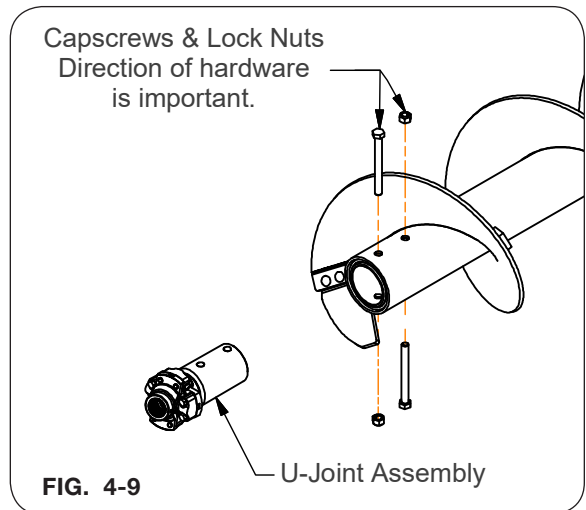

FIG. 4-9
6. Attach the u-joint assembly to the new lower auger flighting by placing 5/8"-11UNC x 7" capscrews (9390-138) and 5/8"-11UNC lock nuts (9801) into the auger from opposite directions as shown in FIG. 4-9.